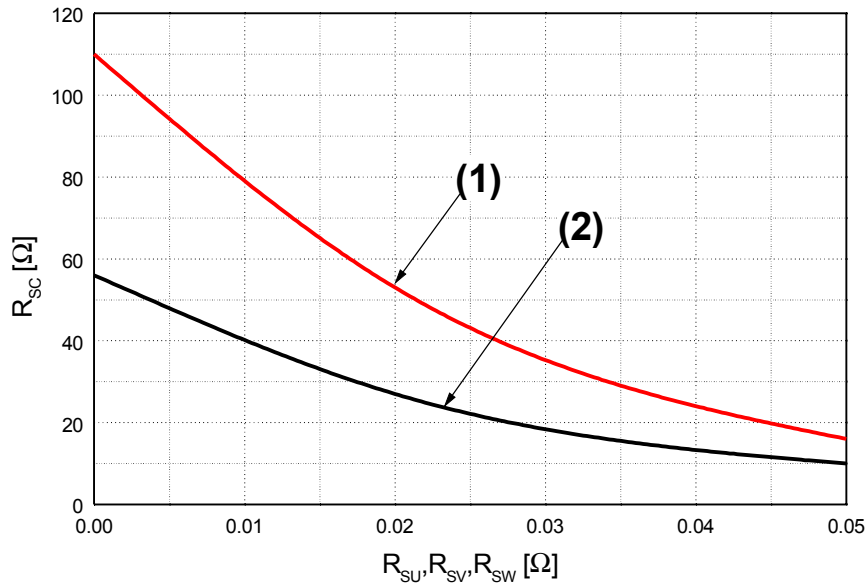

Fig. 7. R_{SC} Variation by change of Shunt Resistors (R_{SU} , R_{SV} , R_{SW}) for Short-Circuit Protection
- Short-circuit current protection is functioning only at the low-sides. It would be recommended that the value of the external sensing resistor (R_{SC}) should be selected around 56 Ω in order to make the SC trip-level of about 45A at the shunt resistors (R_{SU}, R_{SV}, R_{SW}) of 0Ω. For the detailed information about the relationship between the external sensing resistor (R_{SC}) and the shunt resistors (R_{SU}, R_{SV}, R_{SW}), please see Fig. 7.